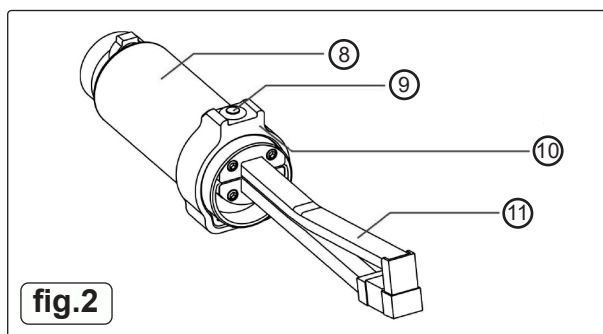

fig.2
4. To begin induction heating, press the inductor activation button. See fig.2.
The inductor activation button is integrated into the transformer assembly and mounted on a rotatable ring, allowing flexible positioning during operation. See fig.2